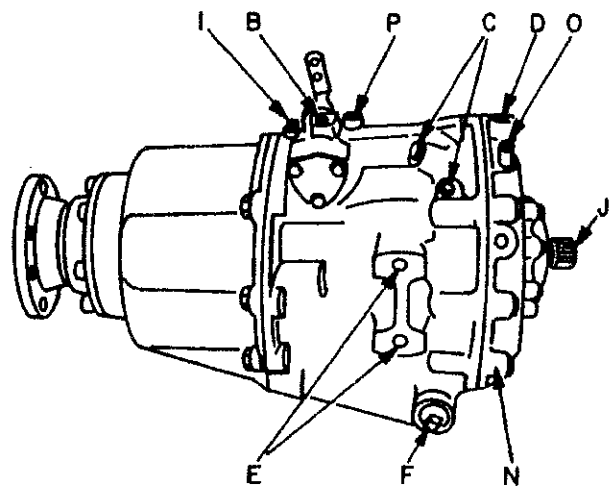

FIG. 2 RIGHT SIDE VIEW OF TRANSMISSION.
**WARNING:** Do not operate the engine unless a suitable oil cooler is properly connected to the transmission. Cooler should maintain the desired 140° to 190°F. (60-88c) transmission operating temperature. Oil from cooler out (see Fig. 2) should be connected to either of the two cooler return locations.